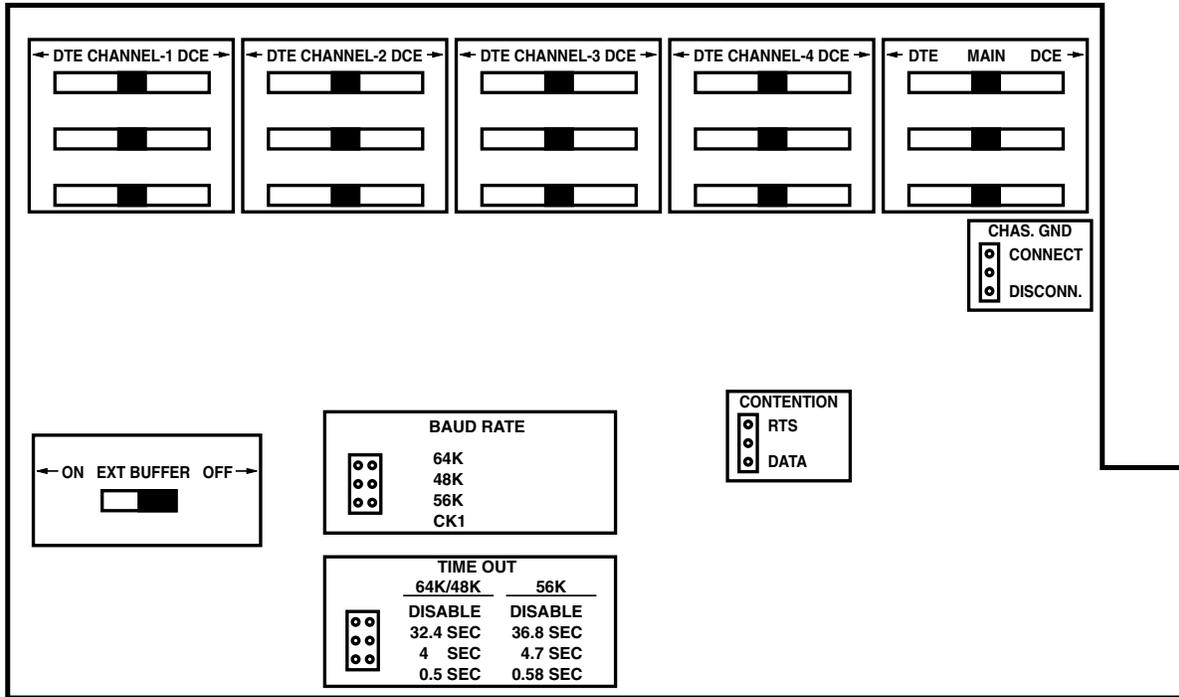

Figure 3-3. PCB layout for the V.35 Data Sharer Plus.
- 3) Identify the straps according to Table 3-1 and Figures 3-3 and 3-4.